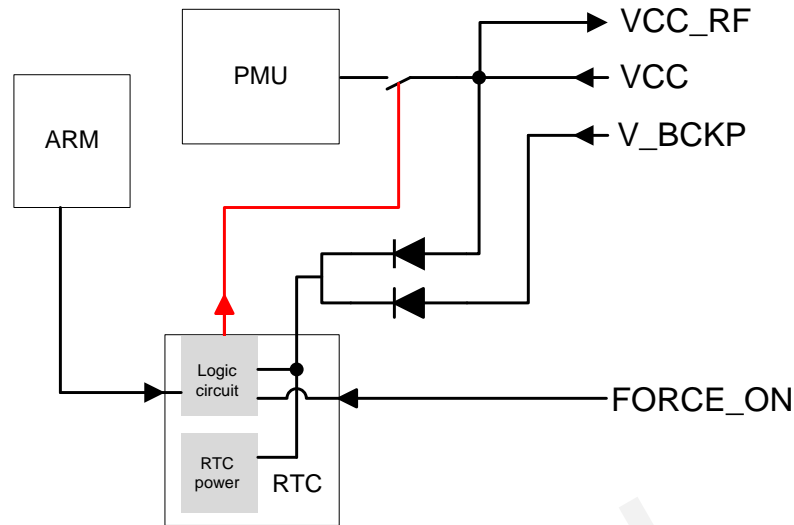

Figure 3: Internal Power Construction
- Send command "\$PMTK225,4*2F" (the red line opens the switch in Figure 3) to enter into backup mode forever. The only way to wake up the module is pulling the FORCE_ON high (the red line closes the switch in Figure 3).